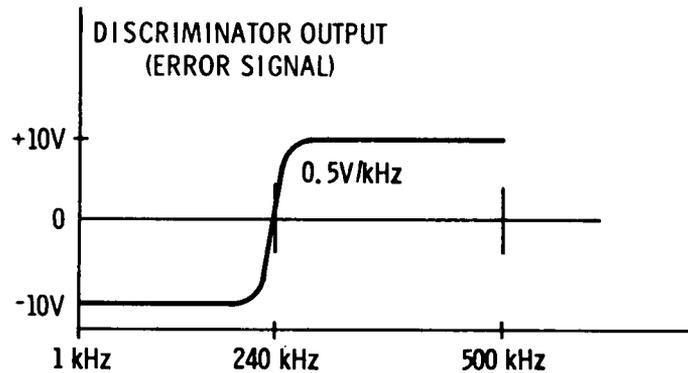

Figure 8-100. Discriminator Output ERROR Signal
**Pulse Width Controlled Voltage Generator** . The output of the EXCLUSIVE OR circuit is buffered, offset and filtered by A1Q9, A1Q8, and associated circuitry. Q9 and Q8 are connected as a dc-coupled differential amplifier. The error output signal is a dc voltage related to frequency as indicated in Figure 8-100. Immediately after the YTO (first LO) is stabilized, the ERROR signal will be approximately 0 Vdc. Now if the YTO increases in frequency because of drift or noise, the ERROR signal will go negative and bring the YTO back to very nearly the same frequency. If the YTO decreases in frequency, the ERROR signal will go positive. Slightly tuning the coarse TUNING control will have the same effect. R30 and C17 constitute a low pass filter.
Vary the frequency of the oscillator while observing the discriminator ERROR output at C4. The discriminator output should vary as shown in Figure 8-100. If the correct output is not obtained, perform the following tests with the oscillator still connected to measurement point A.